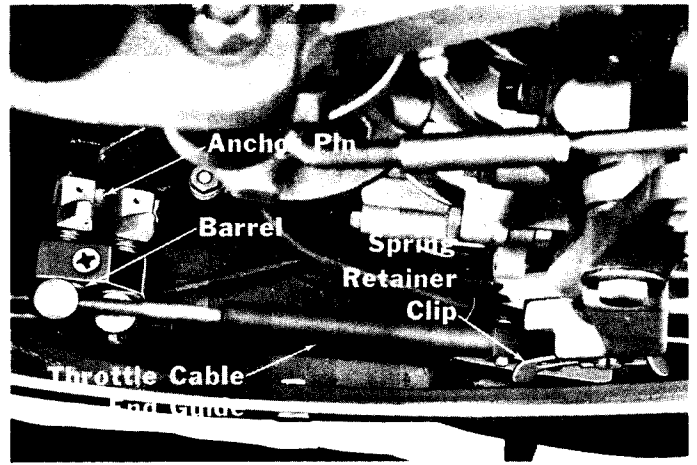

Figure 8. Sliding Spring Retainer on Cable End Guide
9. Secure cable end guide by sliding spring retainer clip over cable end guide. Be sure that hole in spring retainer clip is centered over peg. (Figure 8)